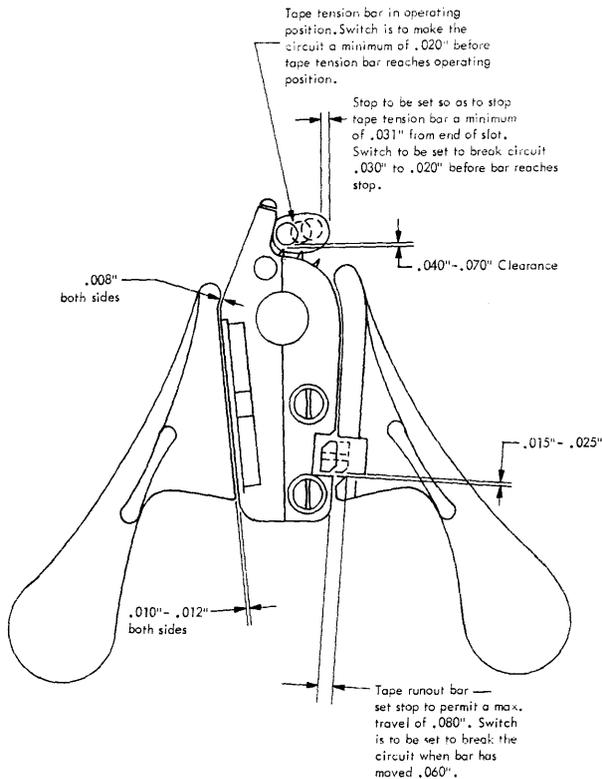
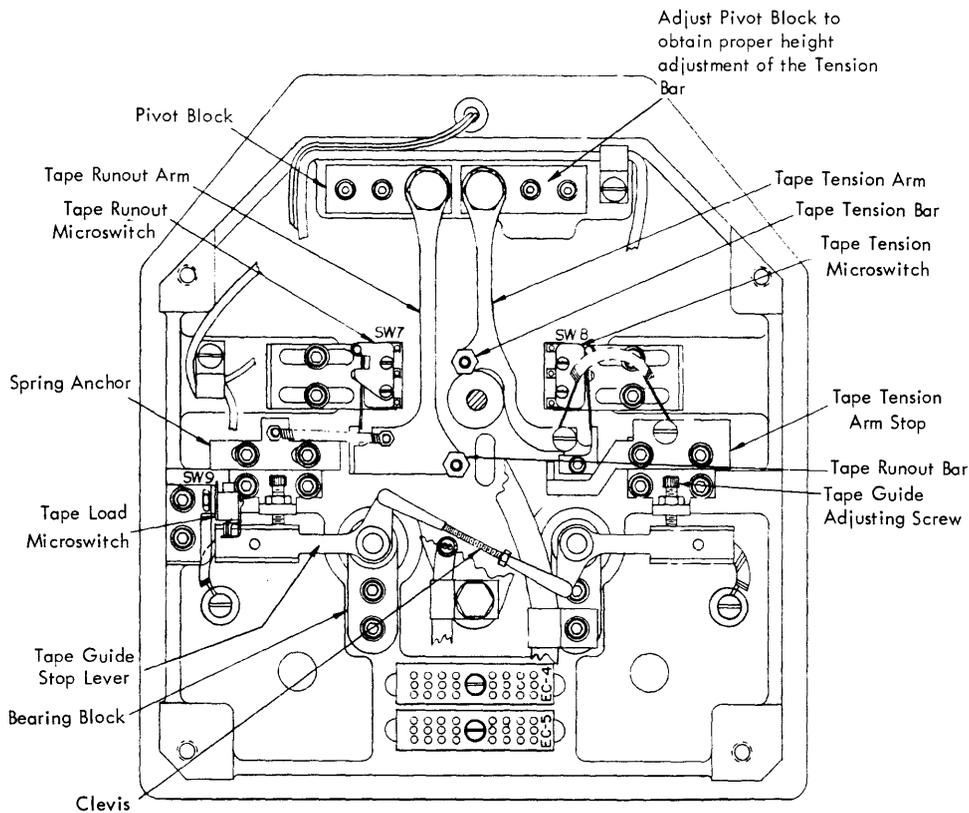

Figure 4-10. Read Head Adjustment
Figure 4-11. Center Plate Casting Assembly – Rear View
The clearance between the tape guides and read head should be $.008'' +.001 - .002$ at the top, and approximately $.010$ to $.012''$ at the bottom of the guides (see Figure 4-10). Too close adjustment of tape guides (less than $.005''$) causes premature feed hole elongation. Make certain that the curved portion of the tape guide is concentric to the curved portion of the read head. Adjust each tape guide as follows:
1. Loosen the two screws holding the bearing block. Back off tape guide adjusting screw. Check to see that the clevis is allowing the tape guide to strike the read head (see Figure 4-11).
4. Turn tape guide adjusting screw until it touches the tape guide stop lever. Turn this screw to obtain clearances shown in Figure 4-10. Tighten the locknut.
1. Loosen the microswitch mounting bracket (Figure 4-11).
Adjust the length of the clevis assembly (Figure 4-11) to allow either the right or the left tape guide to be moved $\frac{1}{8}$ to $\frac{1}{4}''$ from the head without moving the other tape guide.
2. Operate the bar with the tape guides closed. It should not strike top edge of the notch in the right tape guide. The bar should be as close to the top of this notch as practical. See Figure 4-10.
3. If it is necessary to move the bar to satisfy item 2, loosen two screws in the tape runout arm pivot block. See Figure 4-11. Then move the block to position the bar properly.
4. Adjust stop to permit maximum travel of $.080''$ of tape runout bar from flush position with read head, see Figure 4-10. This adjustment is made to prevent the paper tape from being placed on the wrong side of the runout bar when tape is threaded over read head.
If the tape runout bar (Figure 4-10) becomes excessively worn, it may be rotated 180 degrees and used again. To do this:
2. Loosen nut that holds bar to tape runout arm. See Figure 4-11.
1. Loosen two screws in the microswitch mounting plate. See Figure 4-11.
2. Position the tape runout switch so that its contact breaks when the tape runout bar has moved .040" to .060" from its flush position with the read head. See Figure 4-10. This adjustment insures sufficient over-travel for switch operation.
1. Position the tape tension arm pivot block in Figure 4-11 so that the tape tension bar moves without touching any part of the read head. See Figure 4-10.
2. Position the tape tension arm pivot block so that a clearance of .040" to .070" exists between the bottom of the tape tension bar and the topmost pin on the pinwheel. See Figure 4-10. This adjustment causes the tape to ride over the window at the most desirable angle.
If the tape tension bar (Figure 4-10) becomes excessively worn, it may be rotated 180 degrees and used again. To do this:
2. Loosen the nut that holds the bar to the tape tension arm. See Figure 4-11.
1. With no tape in machine, set the tape tension arm stop so that the tape tension bar is approximately .030" from the end of the slot in the front casting. See Figure 4-10.
2. With tape in the machine, move the tape tension microswitch to the right (Figure 4-11) until the switch lever rests on the tape tension arm. Do not preload the switch lever against the tape tension arm.
3. Position the tape tension arm stop so that it is .030 to .020" from tape tension arm when the microswitch opens. See Figure 4-11.